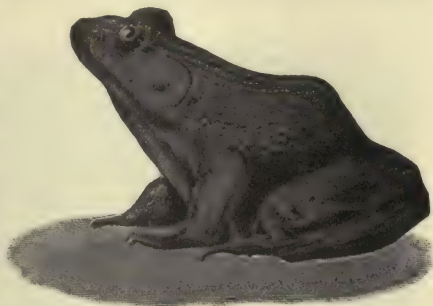

FIG. 339. — A frog.
**Vertebrates.** — Farm animals and fish have a jointed and flexible backbone, or vertebral column, and hence they are called vertebrates. The vertebral column serves as a place of attachment for the larger bones of the body, and also serves as a support or skeleton for the soft parts of the body, such as heart, kidneys, and stomach. To the backboned or vertebrated animals belong frogs (Fig. 339), toads, and reptiles, but these animals are not directly important to man for food or clothing and are not studied here.